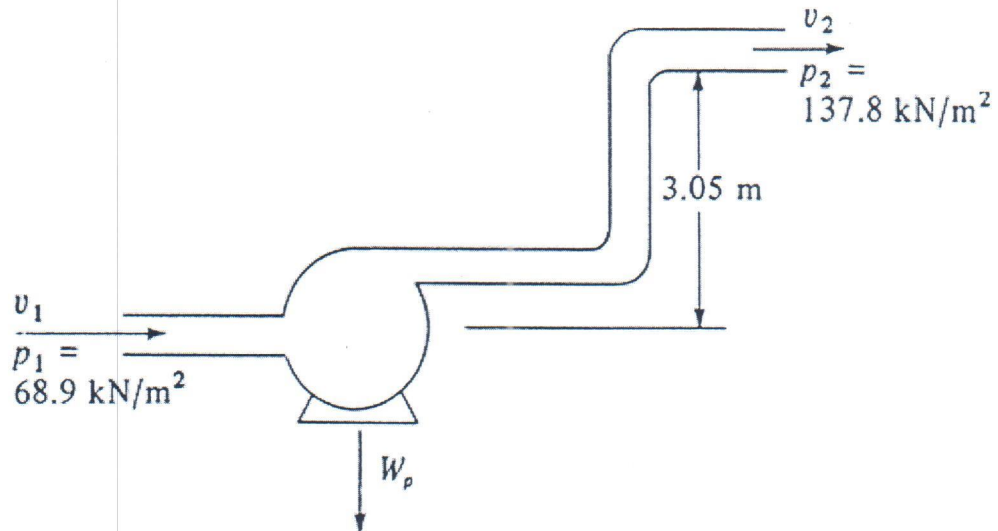

Figure Q.1.[b]
- [b] Water with density of  $998 \text{ kg/m}^3$  is flowing at a steady state mass flow rate through a uniform diameter pipe. The entrance pressure of the fluid is  $68.9 \text{ kN/m}^2$  abs in the pipe, which connects to a pump that actually supplies  $155.4 \text{ J/kg}$  of fluid flowing in the pipe. The exit pipe from the pump is the same diameter as the inlet pipe. The exit section of the pipe is  $3.05 \text{ m}$  higher than the entrance, and the exit pressure is  $137.8 \text{ kN/m}^2$  absolute. The Reynolds number in the pipe is above  $4000$  in the system. List all the assumptions needed and calculate the frictional loss ( $h_f$ ) in the pipe system as given in Figure Q.1.[b].